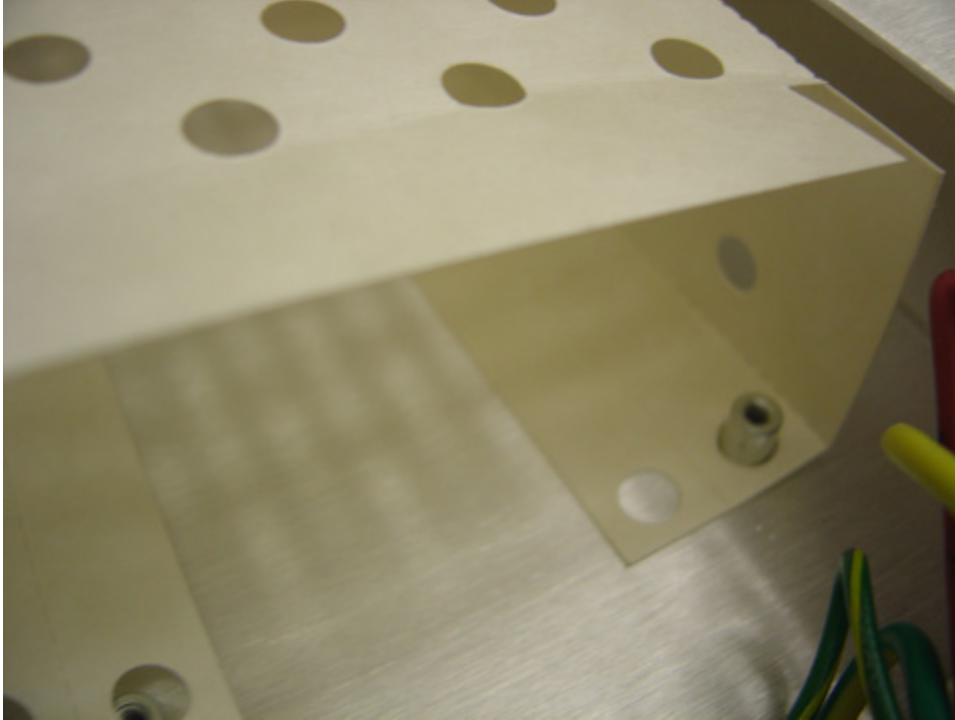

Figure 6 Protective Cover Started
9. Install the new power supply and protective cover, noting the correct orientation of the connectors. It is easiest to place the long side of the protective cover closest to the chassis wall first, as shown in Figure 6.